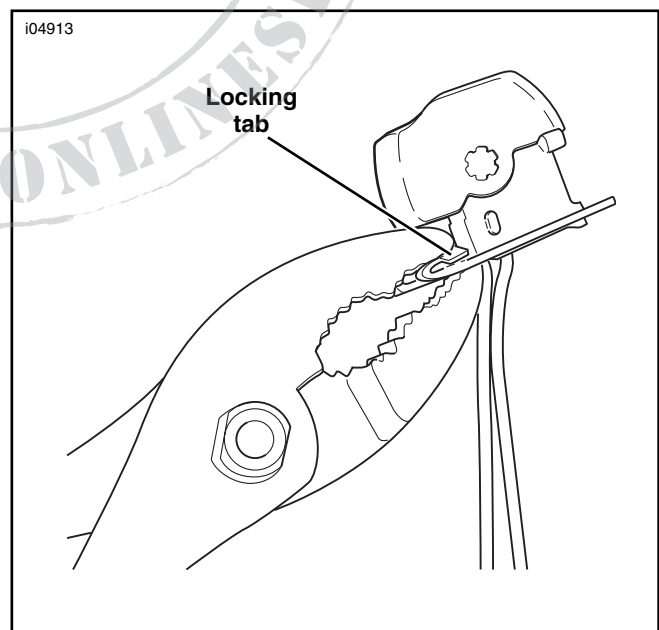

Figure 2. Bend Locking Tab
7. See Figure 2. Secure the switch to the mounting bracket by bending the locking tab over the flange at the front of the switch.